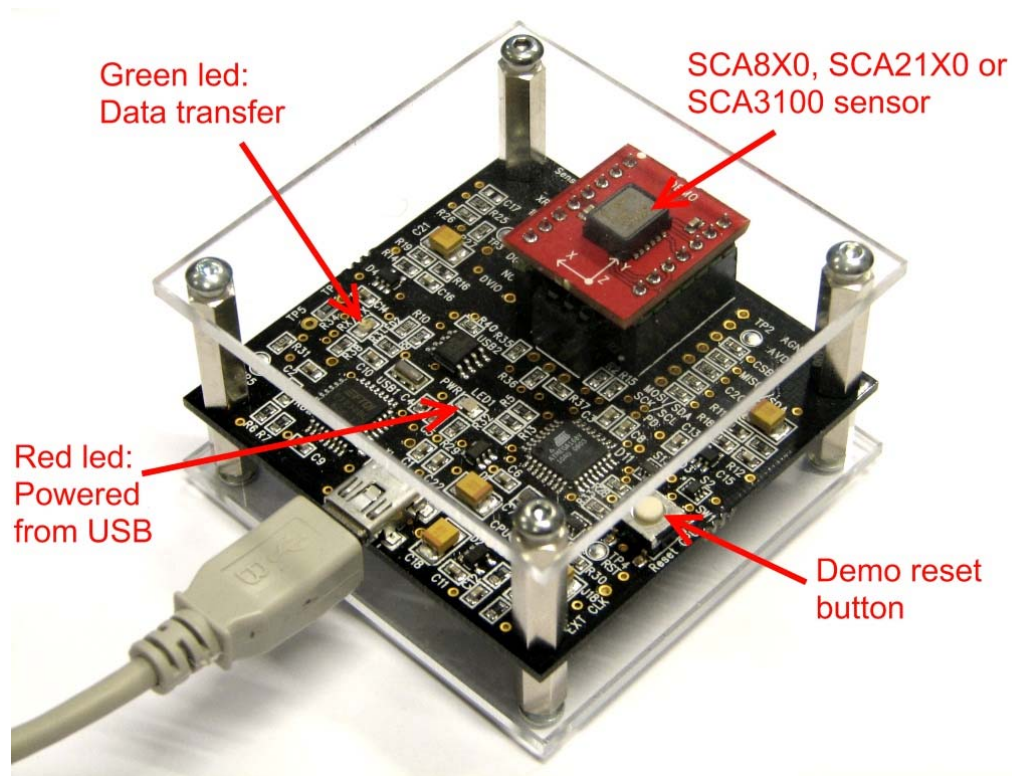

Figure 1. SCA8X0-21X0-31X0 demo USB interface board and SCA8X0-21X0-31X0 PWB.
- SCA8x0, SCA21x0 or SCA31x0 sensor soldered on chip carrier PWB (see figure 1 on the next page)
- USB interface card (see figure 1 on the next page)
The SCA8X0-21X0-31X0 DEMO KIT USB interface board (black PCB) and SCA8X0-21X0-31X0 PWB (red PWB) are shown in figure 1. The USB interface card converts the USB interface to SPI interface of the accelerometer. SCA8x0, SCA21x0 or SCA31x0 sensor is soldered on the PWB which is connected to interface board.
$\mu$ C can be reinitialized by exiting from the GUI and then pressing the reset button (figure 1) on USB interface board.